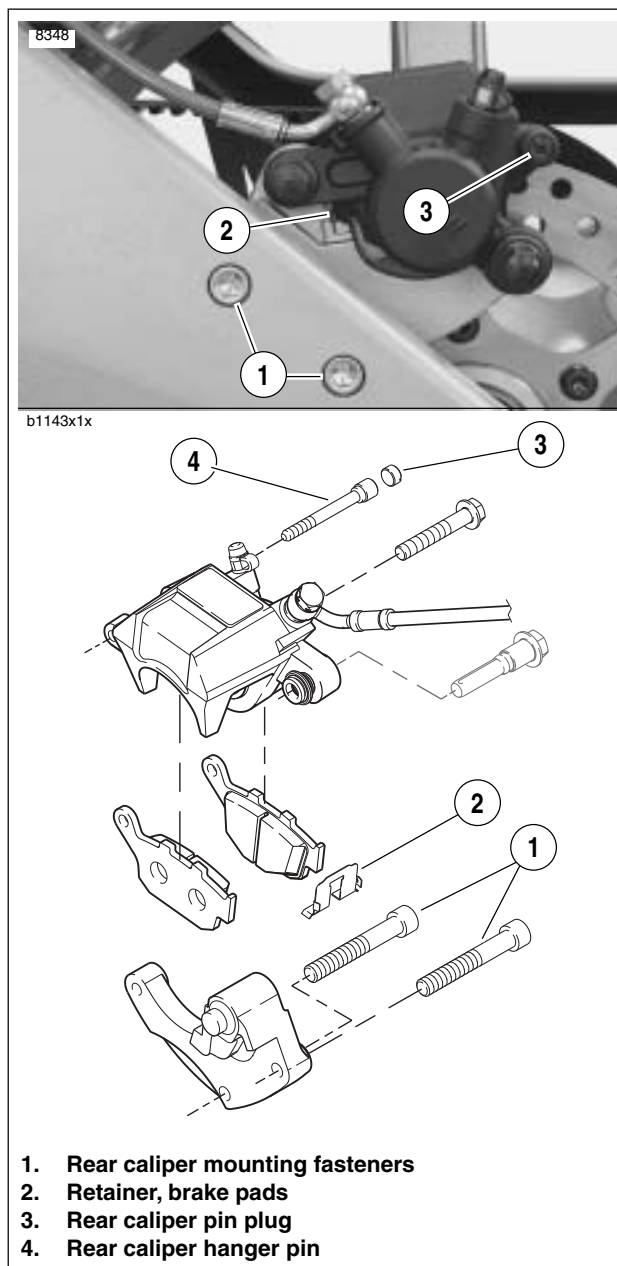

Figure 1-16. Rear Brake Caliper
1. See Figure 1-16. Remove rear caliper pin plug (3) and loosen pin (4).
3. Remove two mounting fasteners (1) securing brake caliper and carrier assembly to swingarm.
5. Remove hanger pin (4).
1. See Figure 1-16. Check that retainer (2) is present.
5. See Figure 1-16. Install hanger pin (4) making sure pin engages hole on both pads.
7. Install two mounting fasteners (1) through swingarm into carrier and tighten to 24-26 ft-lbs (33-35 Nm).
9. Install pin plug (3). Tighten plug to 18-25 **in-lbs** (2-3 Nm).